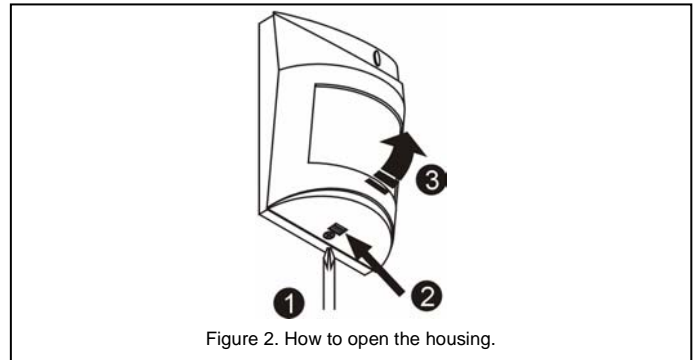

Figure 2. How to open the housing.
1. Open the housing as shown on Fig. 2.